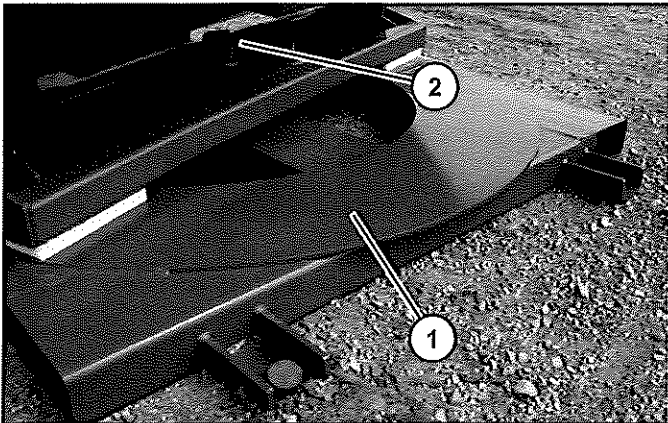

Figure 27
7. Now you can raise the head end of the conveyor to secure the tail to the pivot plate (Item 1). The yoke on the conveyor will seat around the pinning point on the pivot plate. Secure the conveyor to the plate with the supplied bolt (Item 2) (Figure 27).